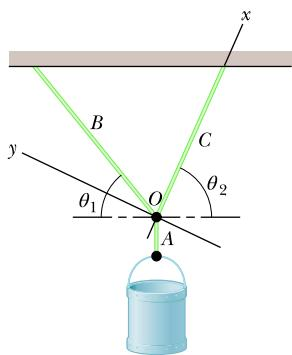

Figure 12.54 Problem 59.
**59 SSM** In Fig. 12.54, an  $817\text{ kg}$  construction bucket is suspended by a cable  $A$  that is attached at  $O$  to two other cables  $B$  and  $C$ , making angles  $\theta_1 = 51.0^\circ$  and  $\theta_2 = 66.0^\circ$  with the horizontal. Find the tensions in (a) cable  $A$ , (b) cable  $B$ , and (c) cable  $C$ . (Hint: To avoid solving two equations in two unknowns, position the axes as shown in the figure.)